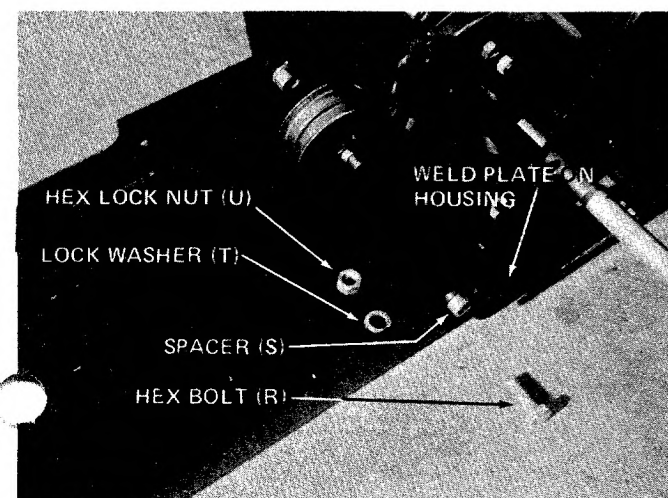

FIGURE 10
7. Assemble the front support channel to the snow thrower housing. Place the front support channel between weld plates on housing. On one side, place spacers (S) between channel and housing and secure with hex bolts (R), lock washers (T) and hex lock nuts (U). See figure 10. Just start nuts on by hand. Using a drift pin or punch on by hand. Using a drift pin or punch on the other side, line up spacers (S) between channel and housing and secure in same manner. An adjustable wrench and a 3/4" wrench is required. **Tighten securely.**